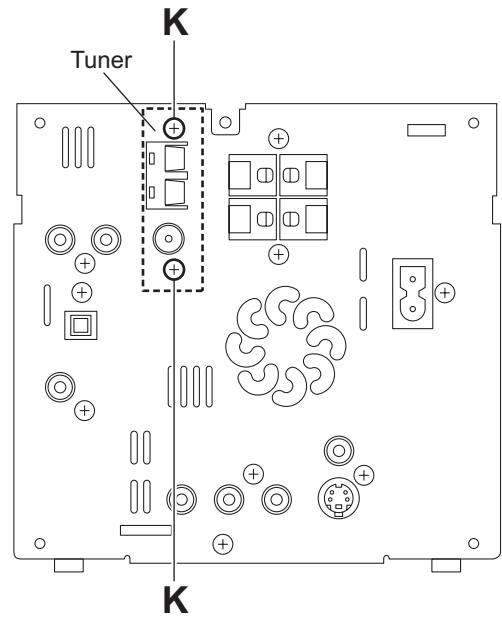

Fig.10
3.1.4 Removing the tuner (See Figs.10 and 11)
- From the back side of the main body, remove the two screws **K** attaching the tuner to the rear panel. (See Fig.10.)